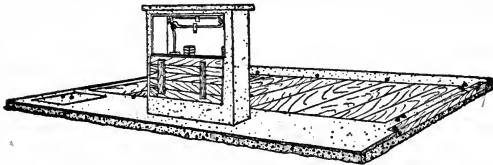

Figure 98.—Concrete Farm Scale Base and Pit
*Concrete Scale Pit.*—Figure 98 shows a concrete scale pit. Farm scales never were properly set until they were set in concrete. The drawing shows a 6,000 pound farm scale in a water proof concrete pit. There